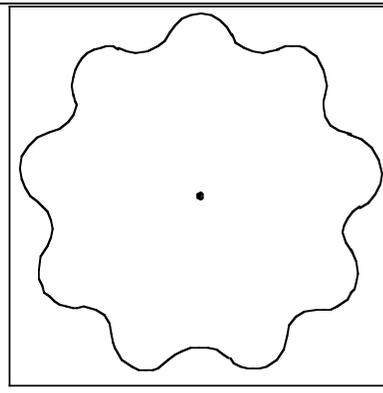

Fig. 6 – Shape to saw is a smooth curve that follows the line of inner circles to outer circles
12. As necessary, smooth and highlight the curve defined by the inner circle arcs transitioning to the outer circle arcs – this is the curve you will be cutting (Fig. 6).
13. Using a band saw, smoothly cut along the entire curve identified in step 12 and Fig. 6. The blank will be ready to turn once all the edge parts have been cut off.